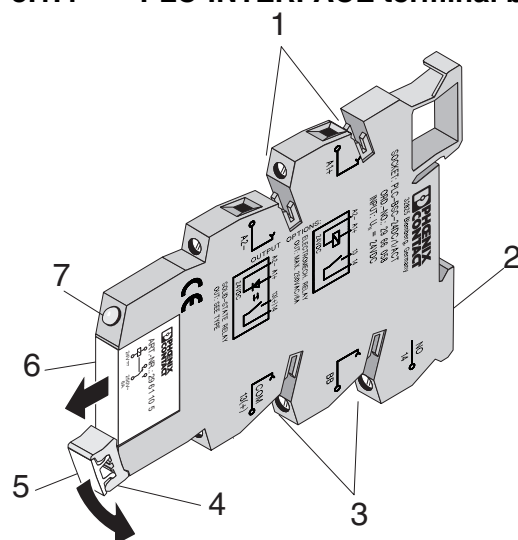

Figure 3-4 Connection and operating elements of PLC-INTERFACE terminal blocks
2. Insert the logic module (stand-alone or basic module) into the corresponding contacts of the eight PLC-INTERFACE terminal blocks. In general, the logic module is inserted in the contact locators of the PLC-INTERFACE terminal blocks, which also have a foot lever for the terminal block located on the side (item 1 Figure 3-4 on page 23).